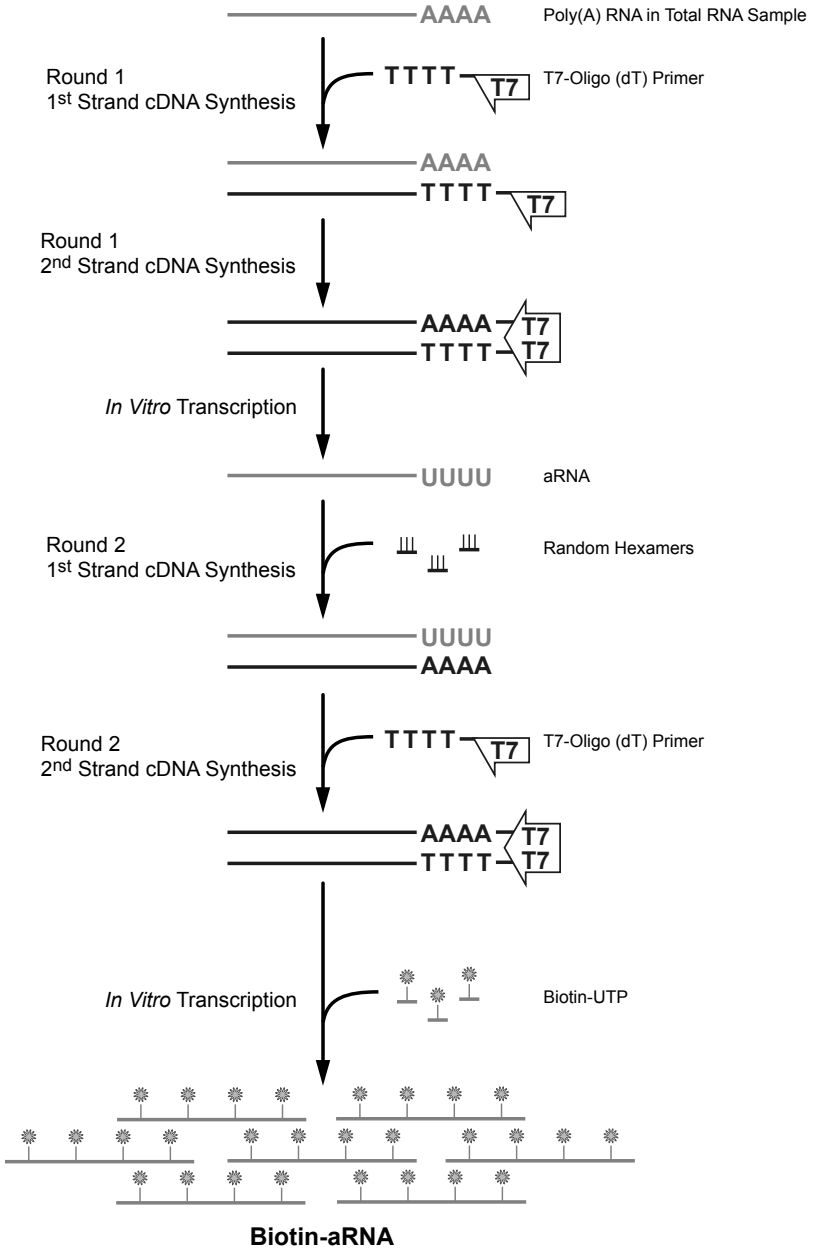

Figure 1. TargetAmp™ 2-Round Biotin-aRNA Amplification Kit 3.0 Procedure.
- 1) Greater than 5,000,000-fold amplification of the Poly(A) RNA contained in a total RNA sample.
The TargetAmp™ 2-Round Biotin-aRNA Amplification Kit 3.0 utilizes an improved “Eberwine” procedure¹ for amplifying Poly(A) RNA from as little as 10 pg of total cellular RNA. The kit requires both SuperScript® III and SuperScript II Reverse Transcriptases (Life Technologies™; provided by the user). See Fig. 1.
- A. Round-One, 1st-strand cDNA Synthesis:** The Poly(A) RNA component of a total RNA sample is reverse transcribed into first strand cDNA. The reaction is primed from a T7-Oligo(dT) primer...a synthetic oligo(dT) primer containing a phage T7 RNA Polymerase promoter sequence at its 5' end. Round-one, 1st-strand cDNA synthesis is catalyzed by SuperScript III Reverse Transcriptase (provided by the user) and performed at an elevated temperature to reduce RNA secondary structure.